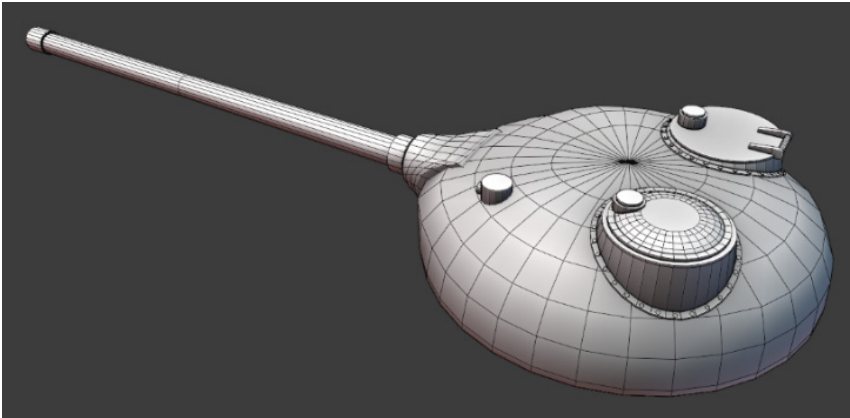

Figure 1.7 – A hard-surface tank turret with a lattice pattern
Of course, this doesn't mean that we will never see a curvy surface on a hard-surface model. *Figure 1.7* shows a tank turret made with two different modeling styles:
**Proportional Editing** is an example of a tool that's typically used in organic-style modeling because of how it changes the surface. It can also be used to model a hard-surface object, such as the tank turret in *Figure 1.7*. **Proportional Editing** is a polygon modeling tool that allows us to control how much an action influences polygons or objects around the one we selected. We can use it if we want to create a smooth bump on a surface, as shown here: